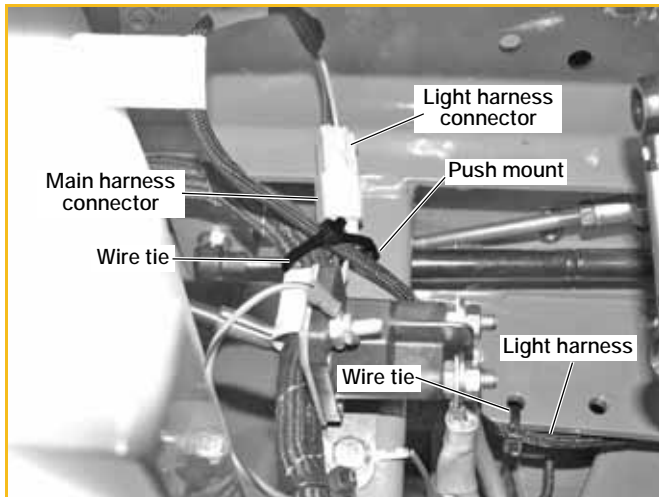

FIG. 8
12. Pull the light harness, at the light harness connector until all the excess harness is removed from along the mower frame. FIG. 8
13. Insert a push mount into the mower frame and insert a wire tie into the push mount. FIG. 8
14. Connect the light harness to the main harness. FIG. 8
16. Position the excess light harness as shown and secure in place with the wire tie. FIG. 8